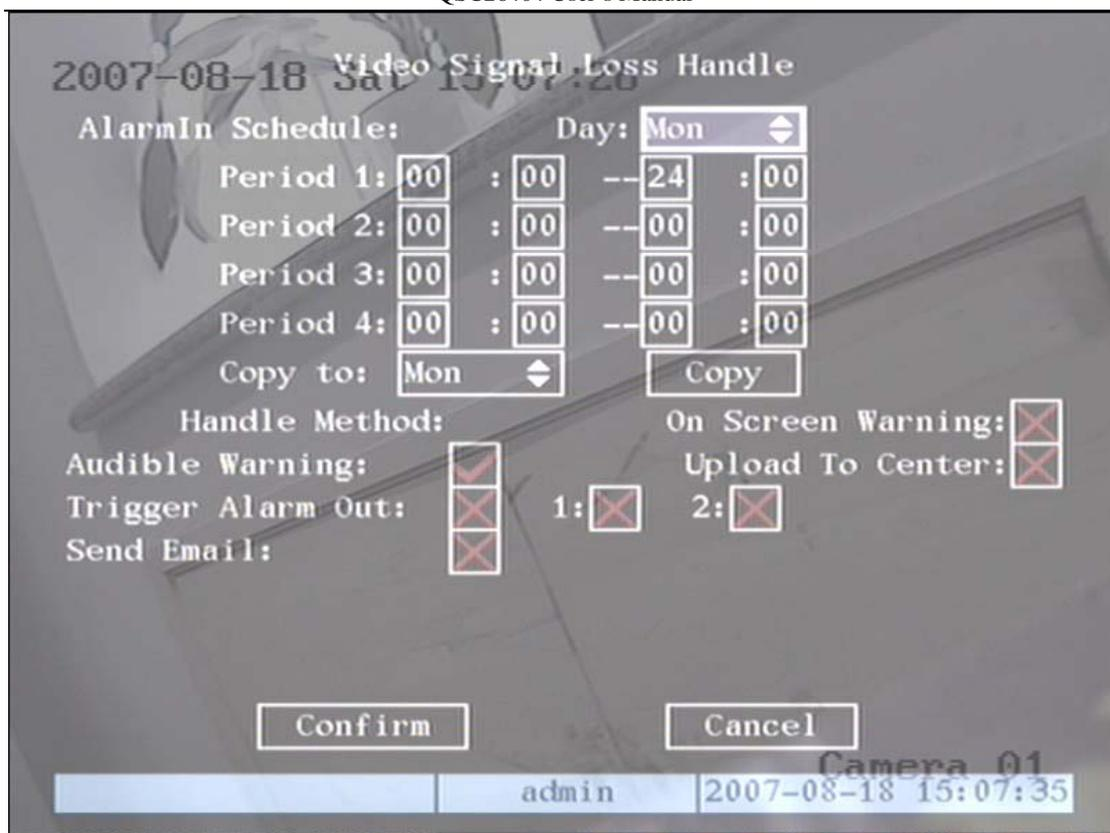

Fig 5.16 Video signal loss handle setup
Step 3: Enter into “Advanced settings” interface: Move “Active Frame” to the “handle method” box on the right side of the “Signal Loss” item, use **【↑】** key to select “Handle” option and move “Active Frame” to the “Policy” button on right side. Press **【ENTER】** to enter into “Signal Loss” interface shown as fig 5.16: